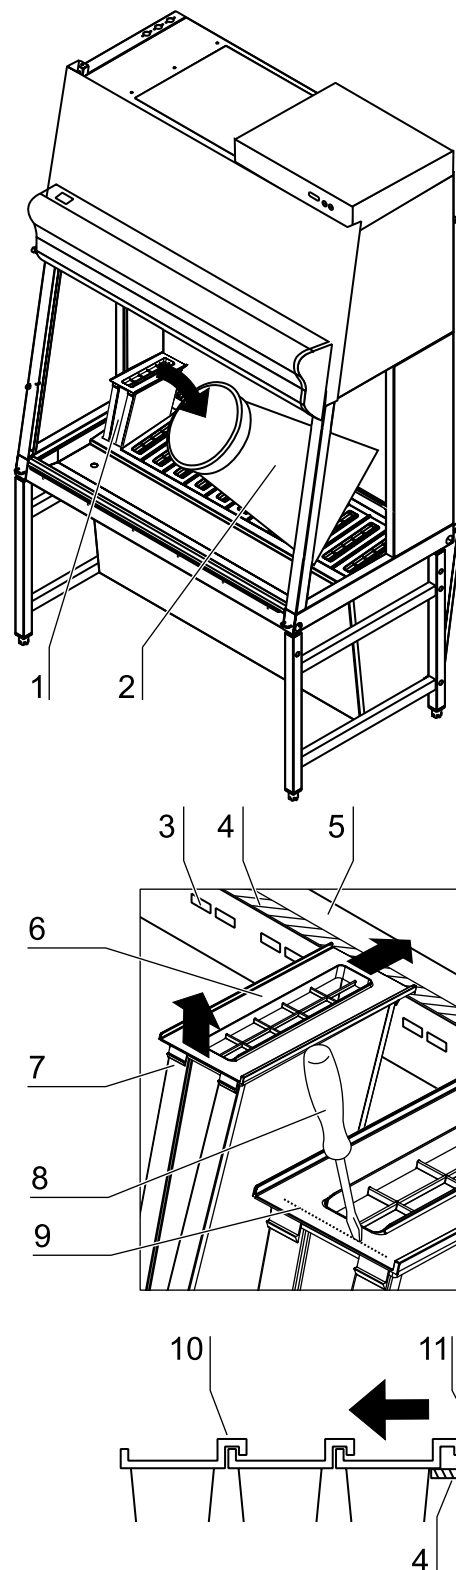

Fig. 23
**Fig. 23:** Each prefilter element [1] is retained in the recess [3] of the floorpan by two frontal retaining clips [7]. When the filters are to be replaced, a sufficient number of suited disposal containers [2] for the contaminated prefilter elements must be available.
2. **Fig. 23:** Remove the first prefilter element [1] at the left side of the sample chamber: Press the filter plate [6] against the rear panel so that the retaining clips [7] on the opposite side disengage from the recess and the filter element can be lifted.